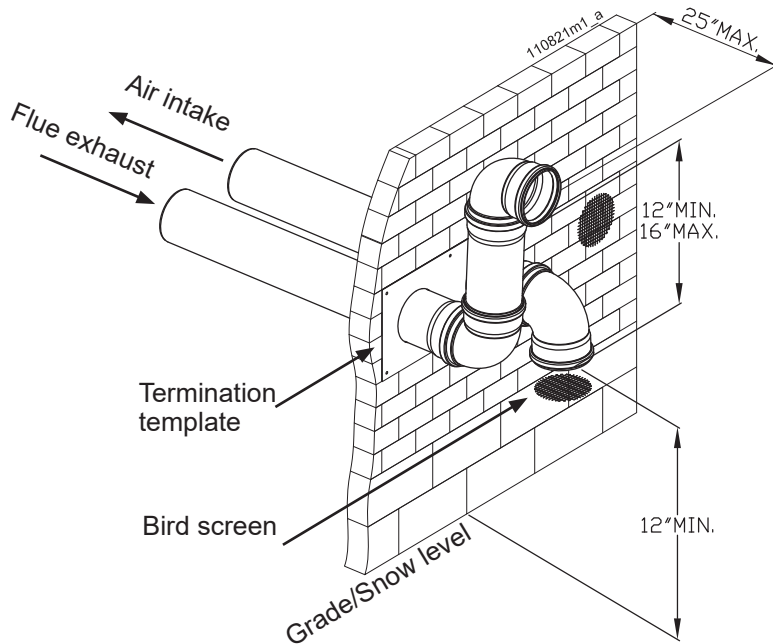

Figure 11-15 - Two pipes sidewall termination of air and vent
- 3.- The vent piping must terminate in an elbow pointed outward as shown in Figures 11-15 or 11-16 or in a roof as shown in Figure 11-22;
Do not exceed the maximum lengths of the outside vent piping shown in Figures 11-15, 11-16 or 11-22. Excessive length exposed to the outside could cause freezing of condensate in the vent pipe, resulting in potential appliance shutdown.
- 3.- The air piping must terminate in a down-turned elbow as shown in Figures 11-15 and 11-16. This arrangement avoids recirculation of flue products into the combustion air stream;
- 4.- The vent piping must terminate in an elbow pointed outward or away from the air inlet, as shown in Figures 11-15 and 11-16;
⚠ WARNING!!! Do not exceed the maximum lengths of the outside vent piping shown in Figures 11-15 and 11-16. Excessive length exposed to the outside could cause freezing of condensate in the vent pipe, resulting in potential appliance shutdown.
- 5.- Maintain clearances as shown in Figures 11-15 and 11-16. Also maintain the following:
- 1.- The air termination coupling must be oriented at least 12 inches above grade or snow line as shown in Figures 11-15 and 11-16;
- 2.- Maintain the required dimensions of the finished termination piping as shown in Figures 11-15 and 11-16;
- 3.- Do not extend exposed vent pipe outside of the building more than what is shown in Figures 11-15 and 11-16. Condensate could freeze and block vent pipe.